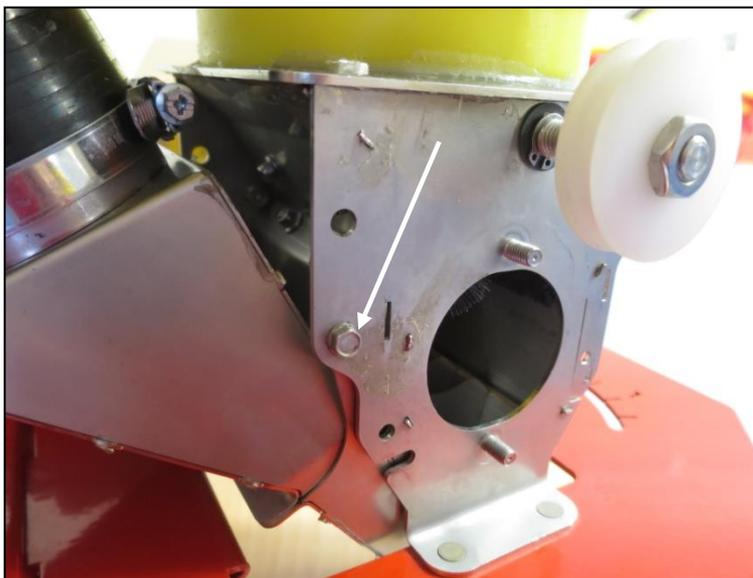

Fig.: 81
- Now install the air channel from the bottom through the large opening and fasten it on each side with one hexagon bolt (marked in Fig.: 81). Moreover, fasten the air channel both at the front (with the previously loosened flange nuts Fig.: 82) and at the rear (with the enclosed flange nuts Fig.: 83).